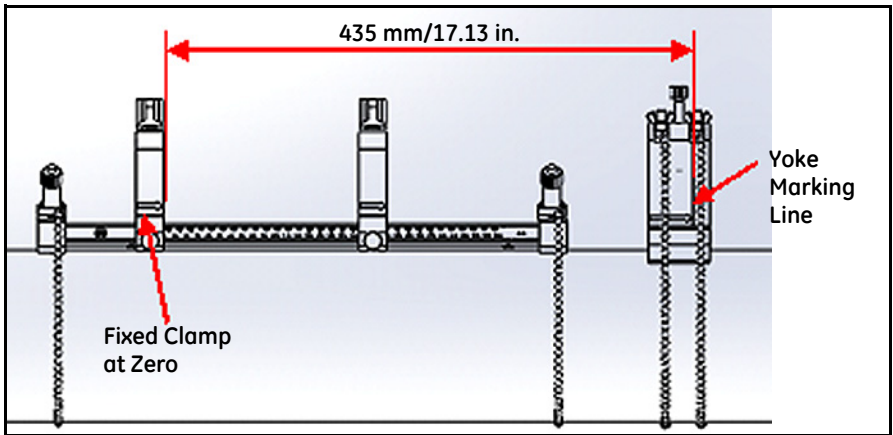

Figure 39: Yoke Set at 435 mm/17.13 in.
- Place the fixed clamp in the clamping fixture at zero on the scale. As an example, if the required transducer spacing is 435 mm/17.13 in., measure the required 435 mm/17.13 in. distance from the edge of the fixed clamp to the marked line on the yoke (see *Figure 39* below).